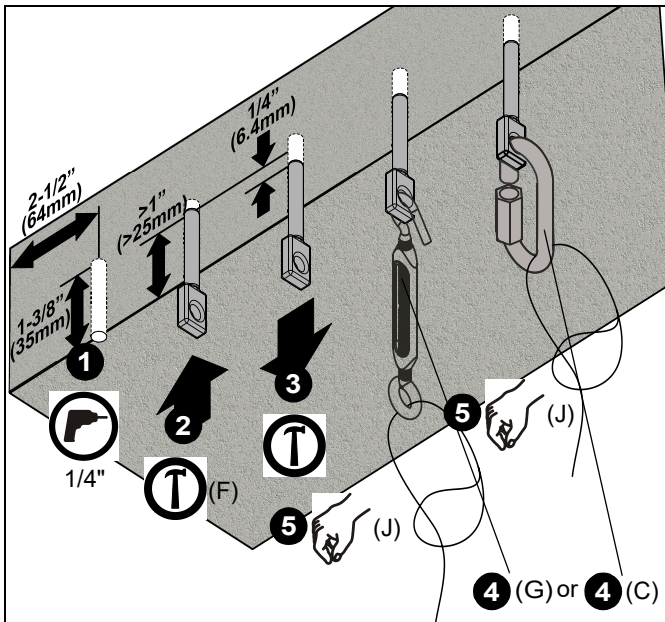

Figure 1
1. Drill 1/4" diameter x 1-1/2" deep hole at each marked cable anchor support location (See Figure 1). Ensure hole is at least 2-1/2" from nearest concrete edge. Remove debris from hole.
2. Tap anchor (F) into each hole until the anchor head is seated in the hole. (See Figure 1)
3. Using claw portion of hammer, set each anchor (F) by pulling it out of hole approximately 1/4" (6.4mm). (See Figure 1)
4. Hang turnbuckle (G) or connecting link (C) through the hole on each concrete anchor (F). (See Figure 1)
5. Insert portion of manufactured loop on cable (J) through hole in turnbuckle (G) or connecting link (C). Insert end of cable (J) through loop. (See Figure 1)